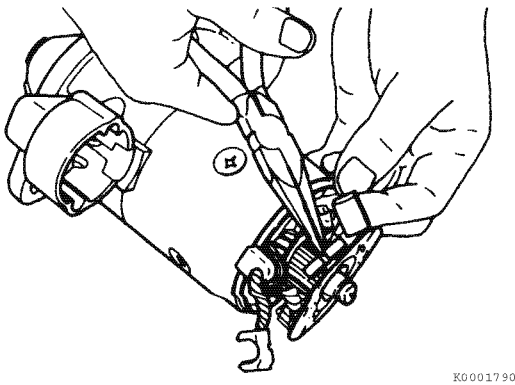

Figure 8-33
8. Position the brush springs in brush holders. Install the brushes in the brush holders. Reversing the brushes will cause the starter motor to turn backwards (Figure 8-33).